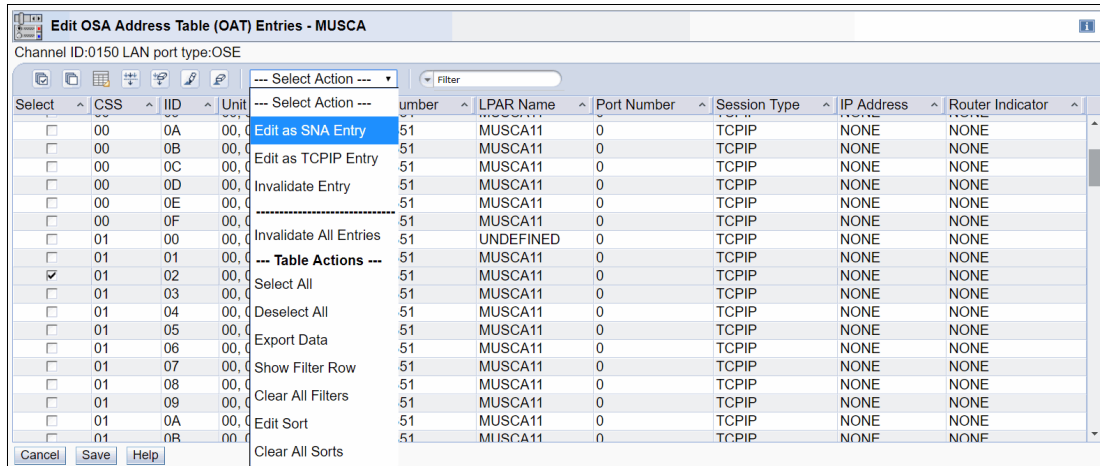

Figure 6-10 OSA/SF on the HMC: Select Action for Edit OSA Address Table (OAT) Entries window
- To edit, select the device in the left column, as shown in Figure 6-10. Click **Select Action** and choose **Edit as TCP/IP entry** or **Edit as SNA entry** for the selected device.